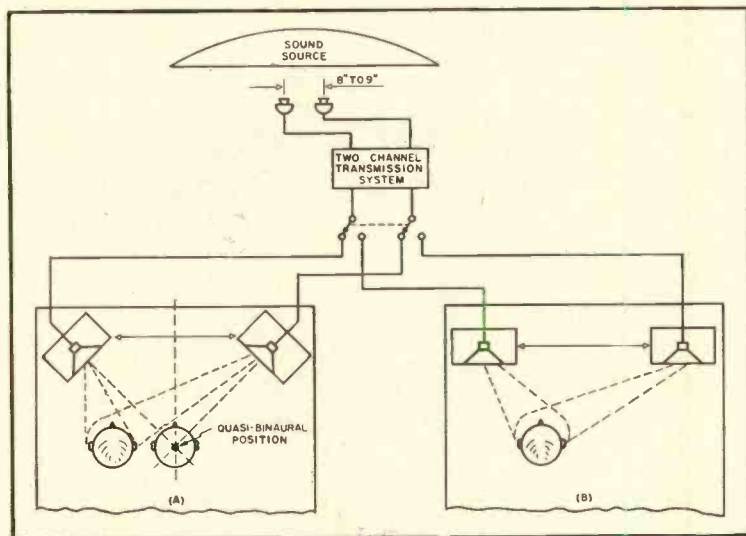

Fig. 2. "Bistereonaural," or mixed and meaningless system.
But we soon discover that listening to headphones makes the sound appear to be behind, rather than in front of us. This is a fact brought out by Bell Telephone's "Oscar" exhibit at the 1933 Chicago Worlds Fair and now permanently displayed at the Chicago Museum of Science and Industry. And it is also just as tiring today to be squeezed by a headset as when the crystal radio was in vogue. The apparent answer to the problems is obvious. Reproduce the signals over loudspeakers, of course. This will put the sound in front of us, and will be more convenient for listening. But while the sound as we hear it from the two loudspeakers sounds different from single channel listening, it still doesn't sound quite right. Remember, we still have the mikes placed only 8 or 9 inches apart. We have suddenly invented a new system of listening: "bistereonaural" or a cross between two different concepts—which is meaningless. See Fig. 2. The placement of the speakers is unimportant here, as no arrangement will give the desired effect. It doesn't matter whether we set the speakers at an angle so that their axes intersect, as at (A) in Fig. 2, or so that they are square with each other. Speaker manufacturers pride themselves today on the non-directionality and wide-angle dispersion of their products. What happens under these conditions of close mike spacing and wide speaker spacing? If we stand somewhere in front of the